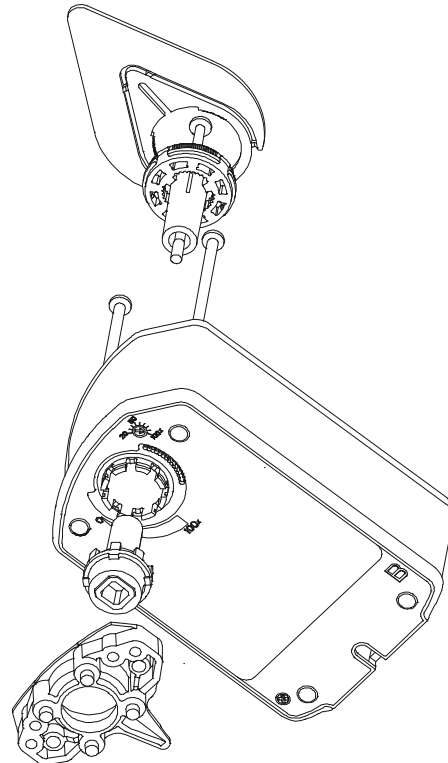

Figure 11: Removing the Linkage
- Remove the linkage from Side B (Figure 11).